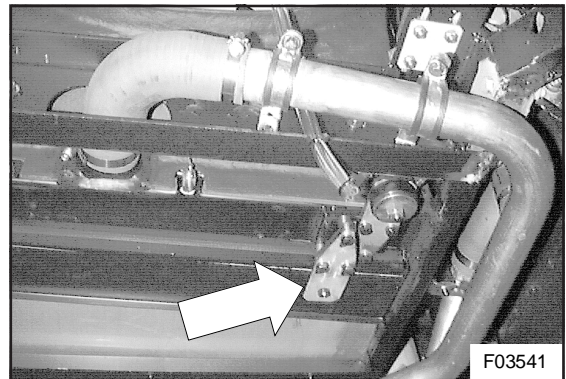

Figure 26: Right intercooler support bracket
28. Undo and remove the rubber buffer retaining nut and the three capscrews securing the right intercooler support bracket to the radiator (see Figure 26). Remove support bracket.